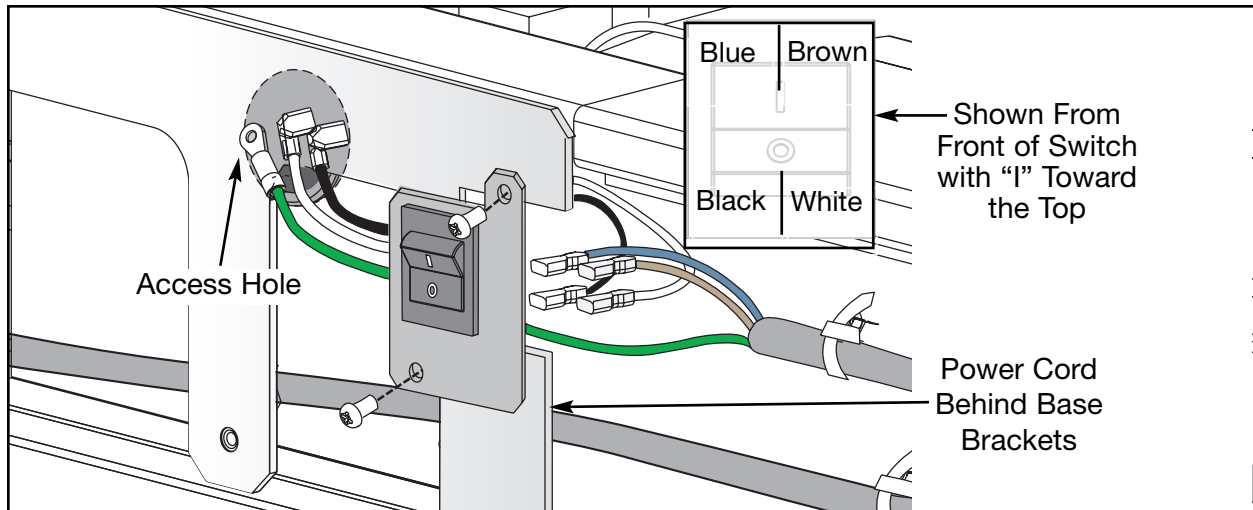

Figure 23
- A. Hold the power switch and its plate so that the I (on) is toward the top. See Figure 23.
- F. Using a Phillips head screwdriver, secure the switch plate to the treadmill with the I (on) toward the top. See Figure 23.